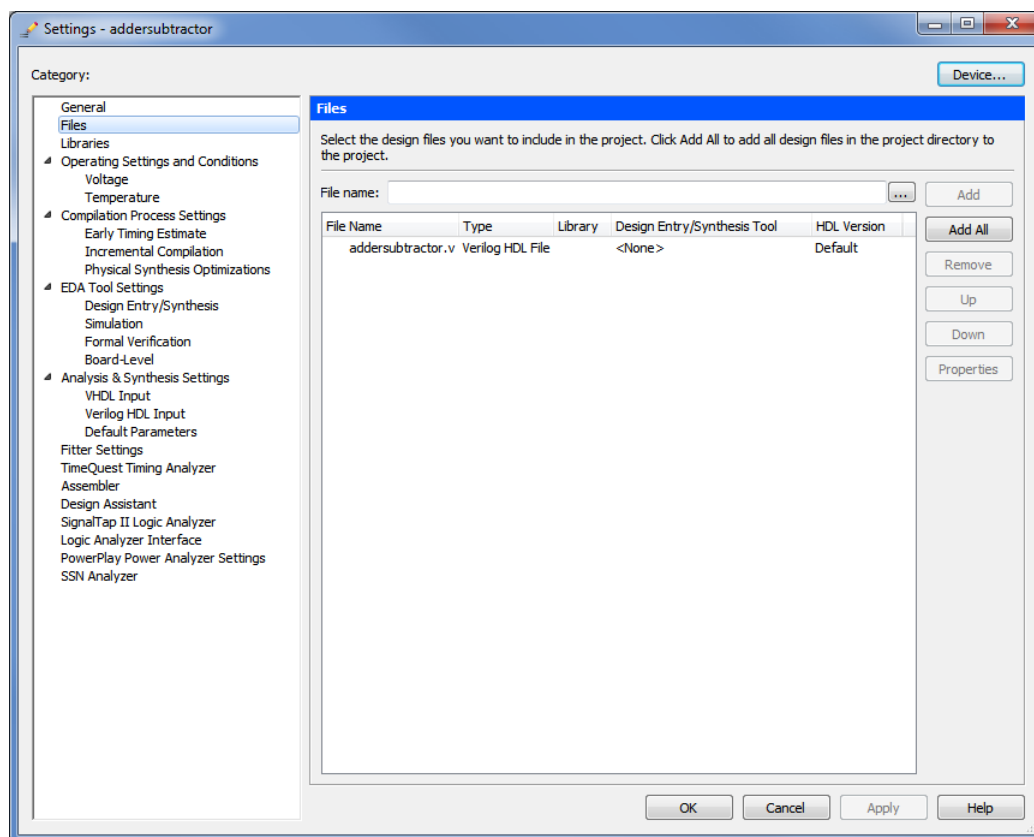

Figure 17: Settings window.
As we indicated when discussing Figure 6, you can tell the Quartus® II software which design files it should use as part of the current project. To see the list of files already included in the *addersubtractor* project, select **Assignments > Settings... > Files**, which leads to a window similar to the window in Figure 17. An alternative way of making this selection is to go to **Project > Add/Remove Files in Project...**
If you used the Quartus® II Text Editor to create the file and checked the box labeled **Add file to current project**, as described in Section 3.1, then the *addersubtractor.v* file is already a part of the project and will be listed in the window in Figure 17. Otherwise, the file must be added to the project.
2. To add this file to the project, click on the ... button beside the File name field in Figure 17 to get the pop-up window in Figure 18.
3. Select the *addersubtractor.v* file and click **Open**. The selected file is now indicated in the **File name** field of Figure 17. Click **Add** and then **OK** to include the *addersubtractor.v* file in the project.